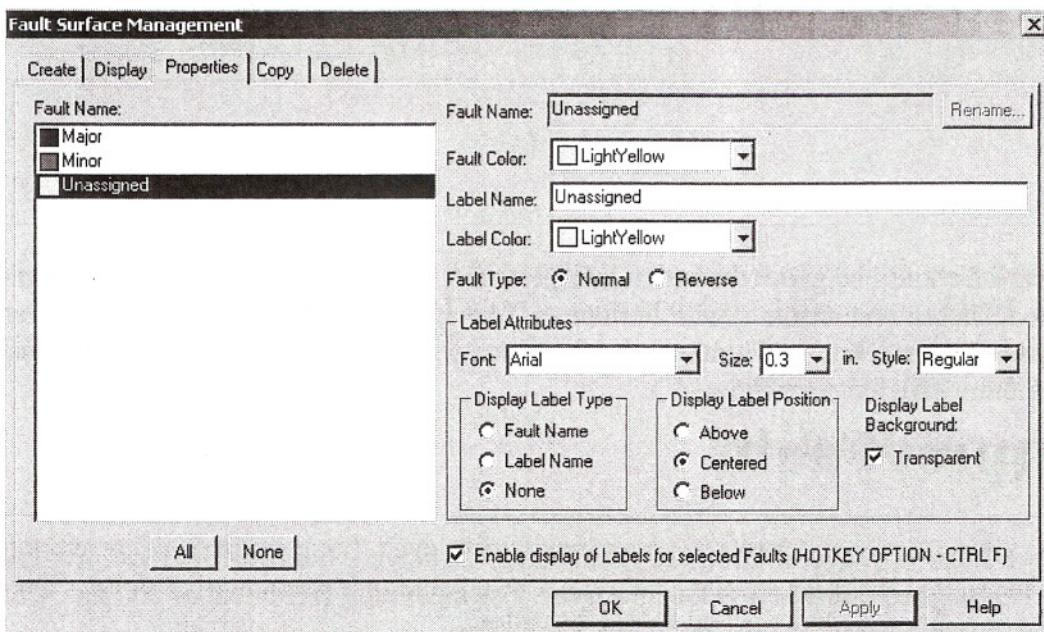

Figure 3.1 — Fault surface Management dialog box with Properties tab active
6. Select **Faults> Fault Surface Management** dialog box (Figure 3.1). Under the **Properties** tab choose the **Unassigned** fault in the **Fault Name** list. Change the **Fault Color** and **Label Color** to Yellow.